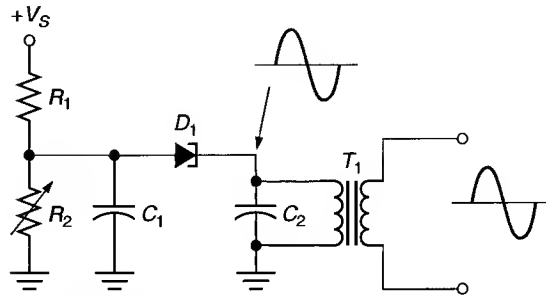

FIGURE 5.15 Tunnel diode oscillator.
tunnel diode oscillator can be understood using basic diode principles. The basic tunnel diode oscillator, which is also referred to as a **negative resistance oscillator**, is shown in Figure 5.15. Note that the circuit is shown to have a dc input voltage (labeled $+V_S$) and an ac output signal. The output frequency of the circuit is approximately equal to the resonant frequency of the LC tank circuit. The tank circuit in the negative resistance oscillator is formed by the primary of the transformer and C_2 .
The negative resistance oscillator in Figure 5.15 uses a tunnel diode to generate and sustain a sinusoidal output with only a dc input (as shown in the figure). To understand this principle, we need to take a brief look at what happens when a current pulse is provided to a parallel LC circuit.
The key to sustaining a sinusoidal output from an LC tank circuit is to provide it with additional current at the peak of each cycle, as shown in Figure 5.16c. When current is provided to the tank circuit on each cycle, the energy lost is restored to the circuit and the cycles continue at a constant amplitude. With this in mind, let's go back to the circuit shown in Figure 5.15.
7. Briefly explain the operation of the circuit in Figure 5.15.